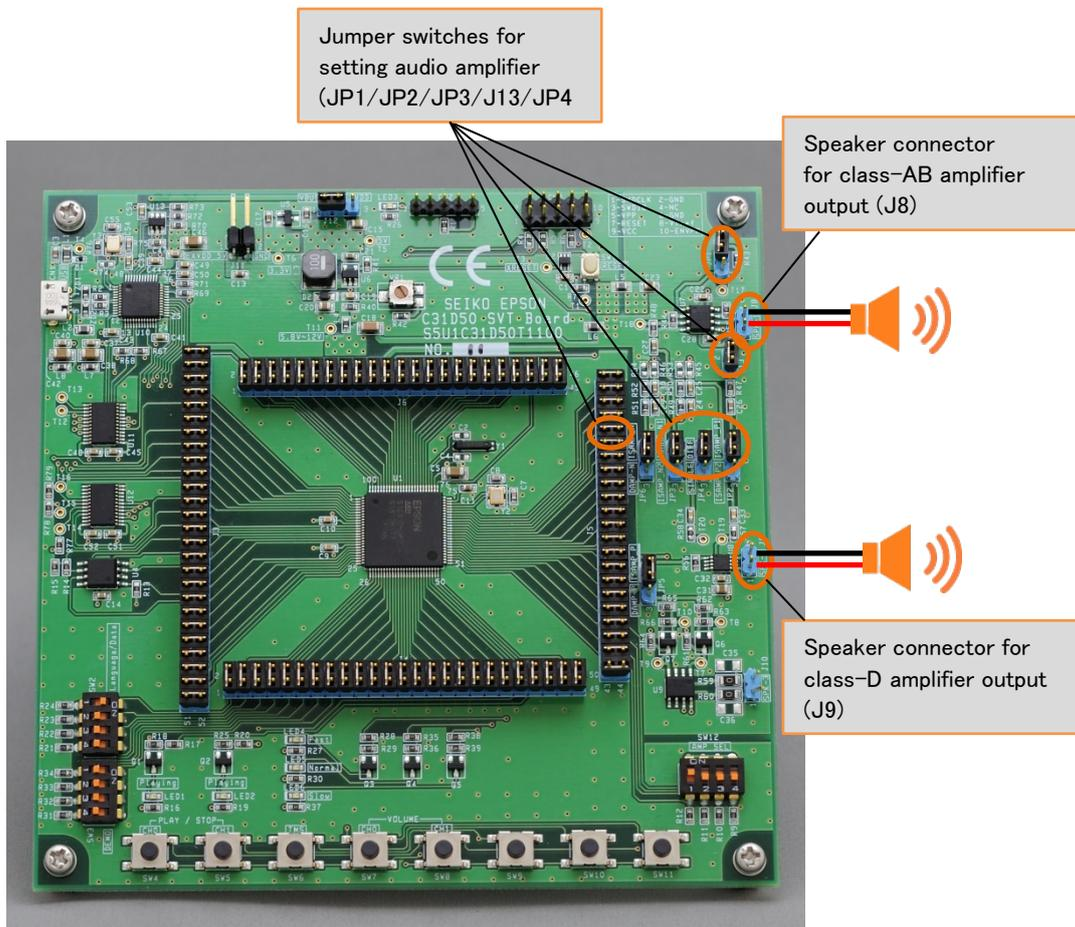

Figure 3.20.2 Jumpers and Connectors for Sound Play
1. Check the jumper settings of audio amplifiers on S5U1C31D5xT1. (see Table 3.20.2 and Figure 3.20.2.)